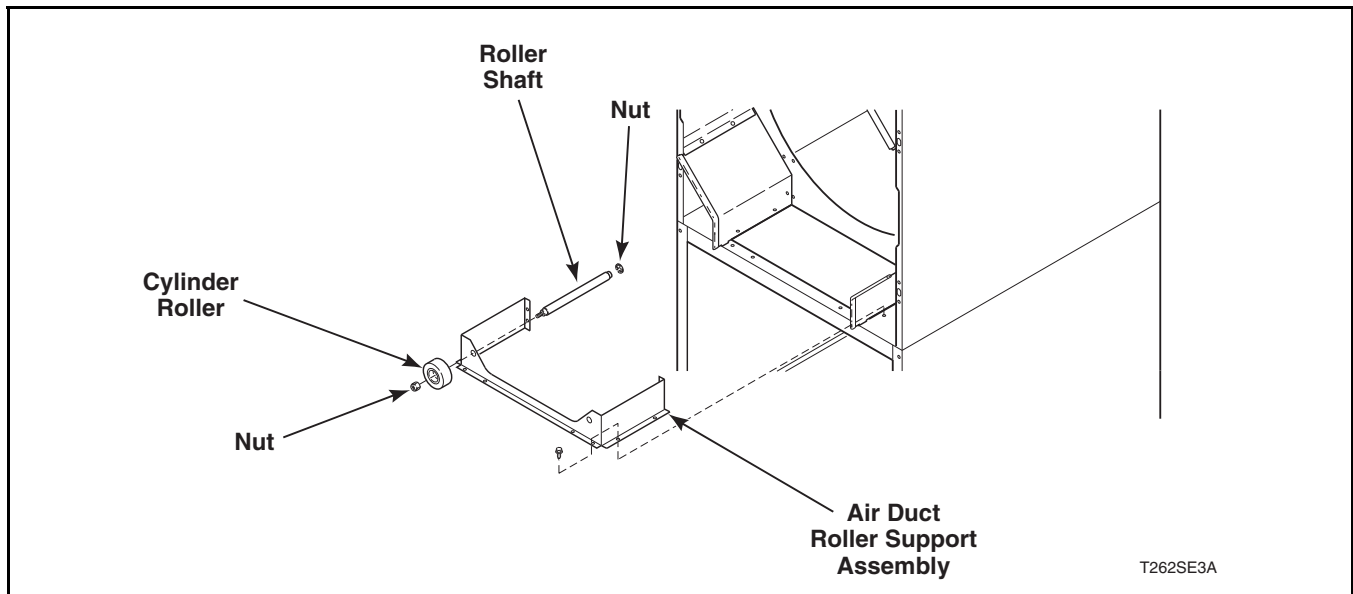

Figure 16
Refer to *Figure 16*.
- d. Remove nuts from end of roller shafts. Refer to *Figure 16*.
- e. Lift cylinder slightly and remove rollers from shafts. Refer to *Figure 16*.